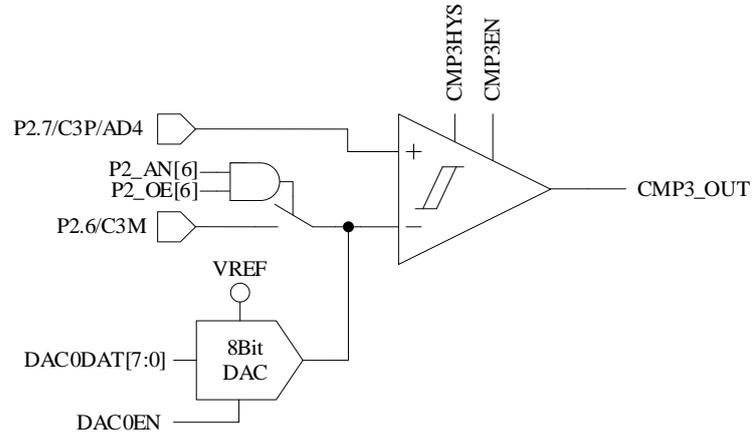

Figure 27-2 Single-comparator Input Mode
- When CMP3MOD = 00, CMP3 works in single comparator input mode. The connection of input and output pins are shown in Figure 27-2.